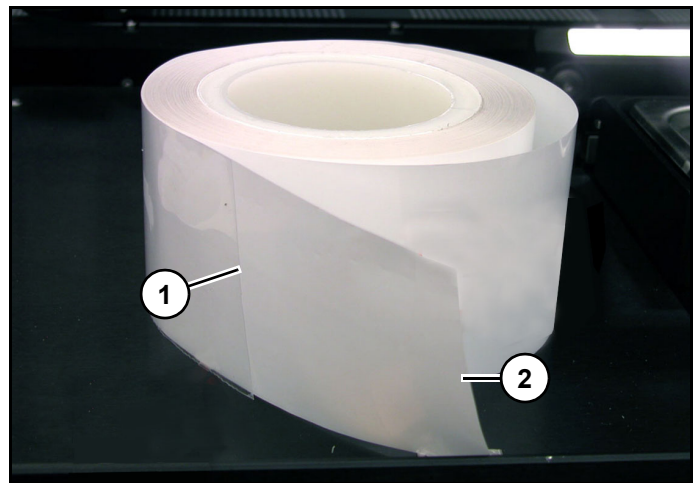

Figure 3
1. Using scissors, cut clear side 3-4 inches of clear tape (1) shorter than backing (2). (Figure 3)